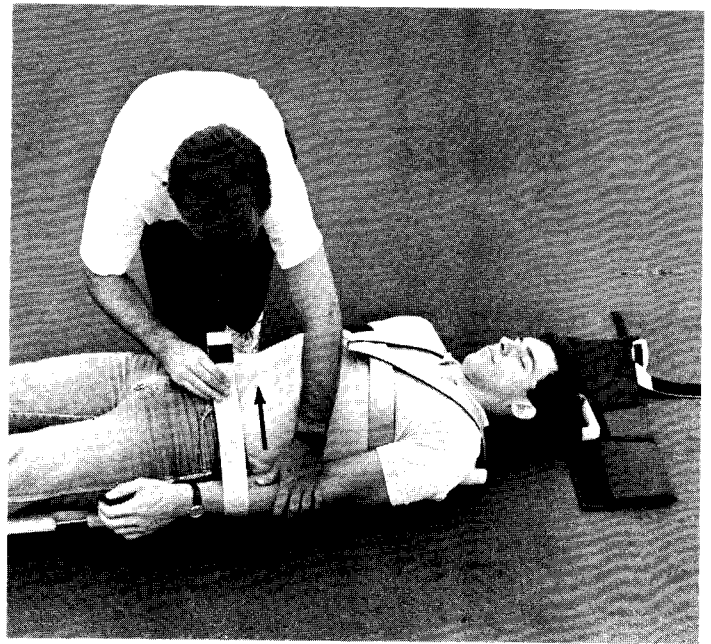

Figure 5.1
- 5.1 Adjust the lower torso strap. (Figure 5.1)
- 5.2 Place the victim's hands inside the lower torso strap. Avoid overtightening the torso strap with hands inside as it may cause circulation problems in the hands. (Figure 5.1)